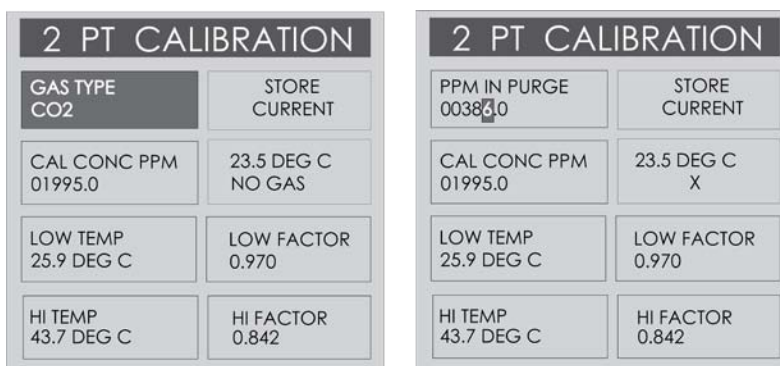

Figure 4-12. Accessing the CO2 Atmospheric Concentration Setting (PPM IN PURGE)
2. Ensure the GAS TYPE setting is selected (see Figure 4-12) and press ENTER.
3. CO2 calibration curve options are displayed. Simply press ENTER to access the ambient CO2 concentration setting (PPM IN PURGE). See Figure 4-12.